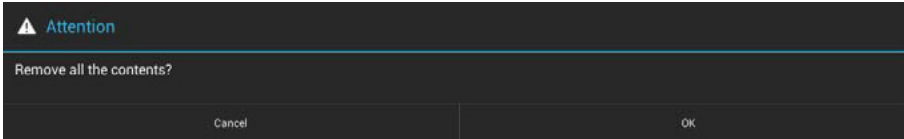

**FIG. 107** Select a Certificate Type window (indicating no certificate files found)
3. In the *Certificate File Browser* window, select the certificate file on the attached USB drive that will be installed (FIG. 107):